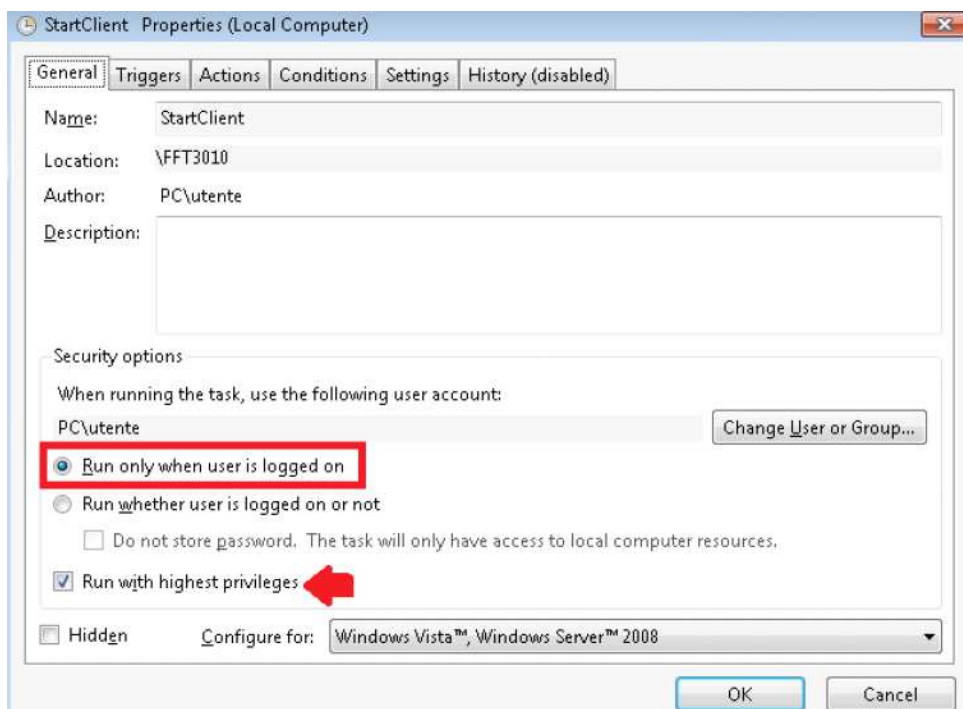

Fig. C.41: General tab
STEP 10 – The new *StartClient* basic task is right now created and the *StartClient Properties* dialog box is open. Please select *General* tab and verify that *Run only when user is logged on* option is selected and then Select *Run with highest privileges* (Fig. C.41).